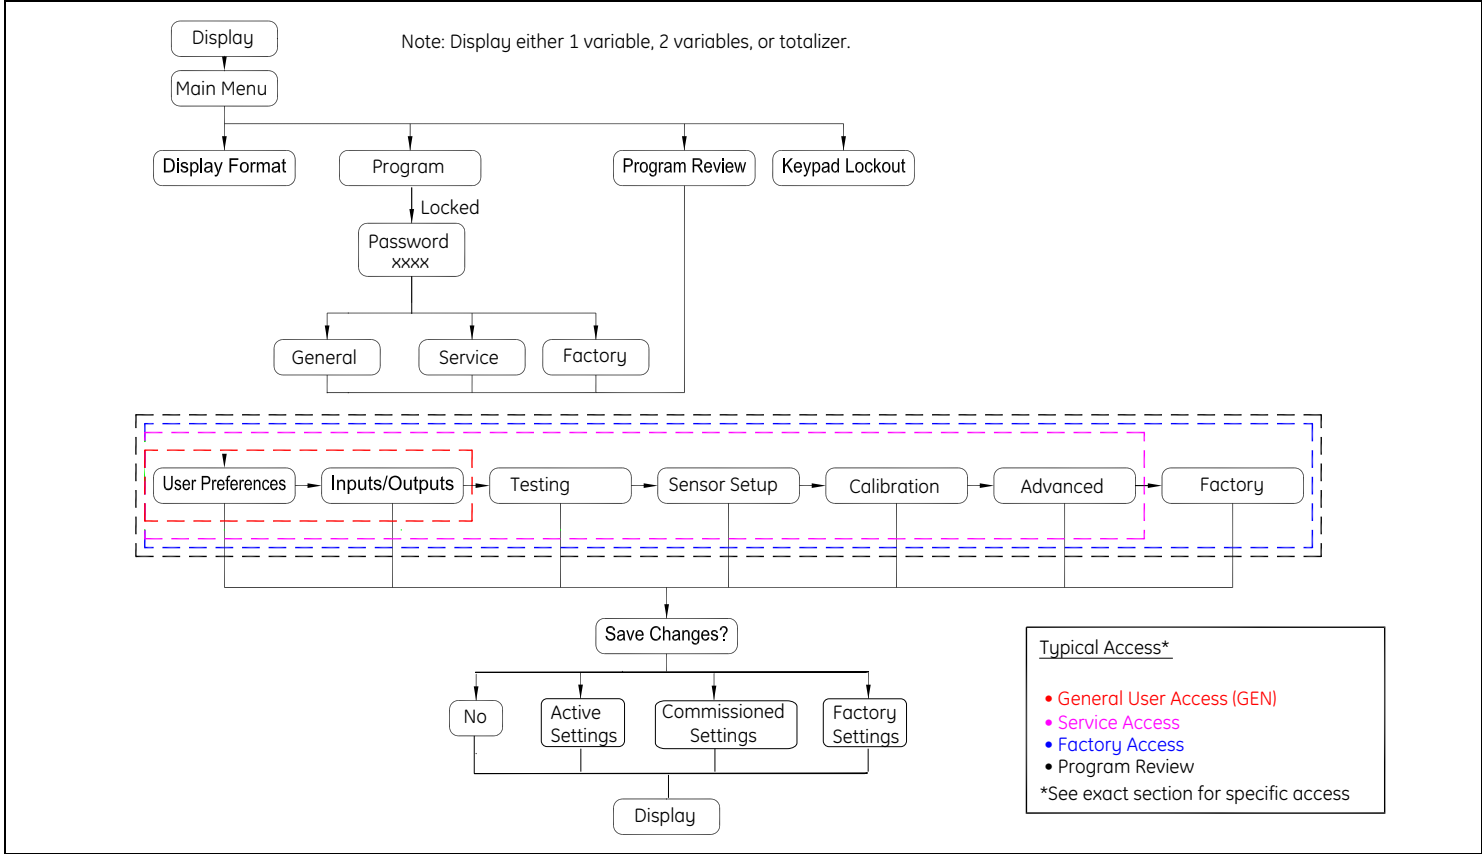

Figure 24: Meter Programming Overview
- Figure 24, “Meter Programming Overview,” on page 82